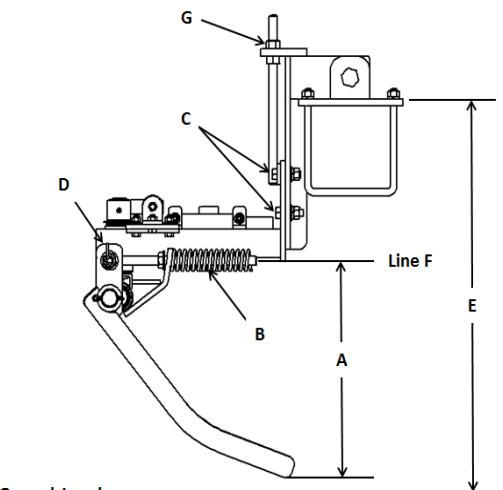

Figure 30: Row Finder Adjustment- Right Side View
Likewise, the row finder wands should be angled down when lifted out of the ground as shown in Figure 30. Dimension (A) can be adjusted using nuts (D):